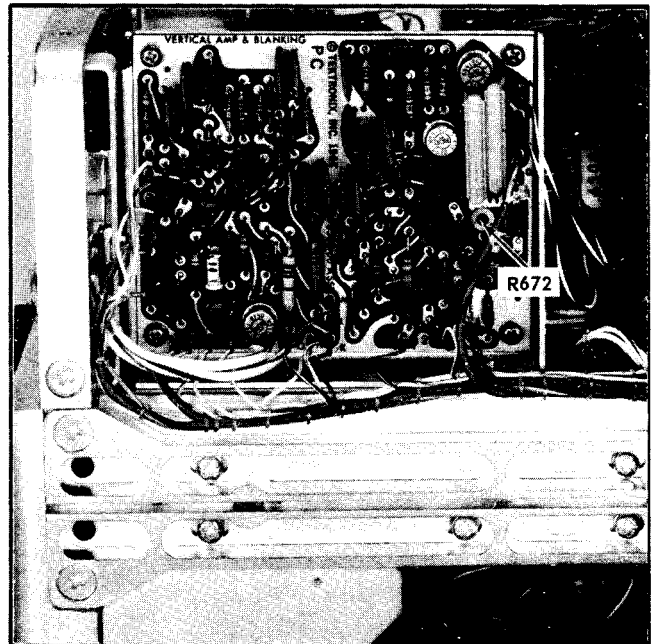

Fig. 6-10. Location of Vertical Amplifier Gain adjustment R672.
d. Adjust the Vertical Amplifier Gain R672 (Fig. 6-10) for a signal amplitude on the Type 491 of 5 major divisions.